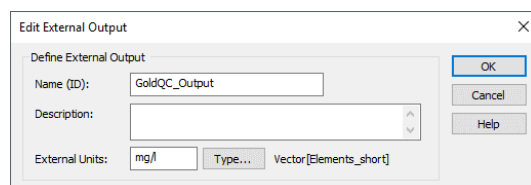

Figure 7: Configuring External Element Part 2
4. Next switch to the interface tab of the External Properties Dialog, in the top section labelled Input Interface Definition, click the green plus and select the input Vector you wish to use with GoldQC. Secondly click the green plus in the Output Interface Definition section, an Edit External Output dialog will appear. In the Edit External Interface dialog specify the name followed by the type as Vector, the Vector Row Labels option should be set to the same row labels as the input. Finally set the units to mg/l. See figure 7. Figure 8 shows the final view of the external element interface dialog.